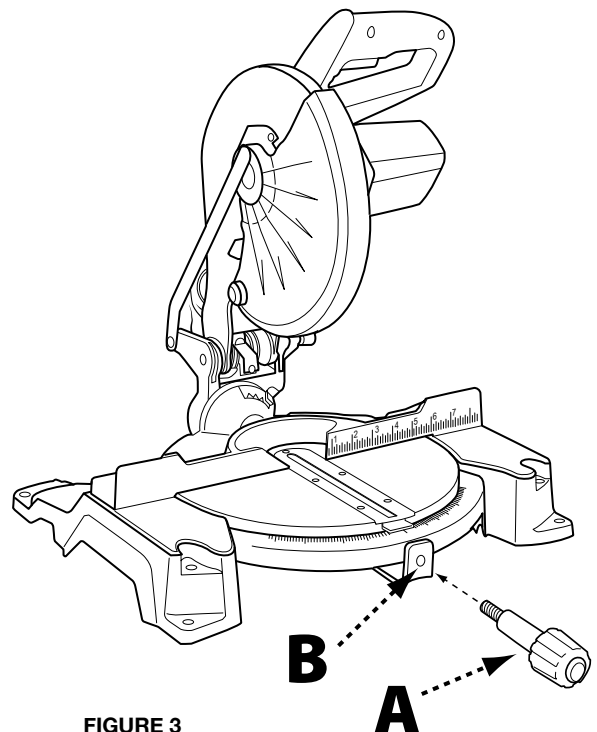

FIGURE 3
4. See Figure 3 and attach the miter lock knob by screwing the end of the miter lock handle (A) into the threaded hole (B) in the control arm. Tighten by rotating the lock knob clockwise